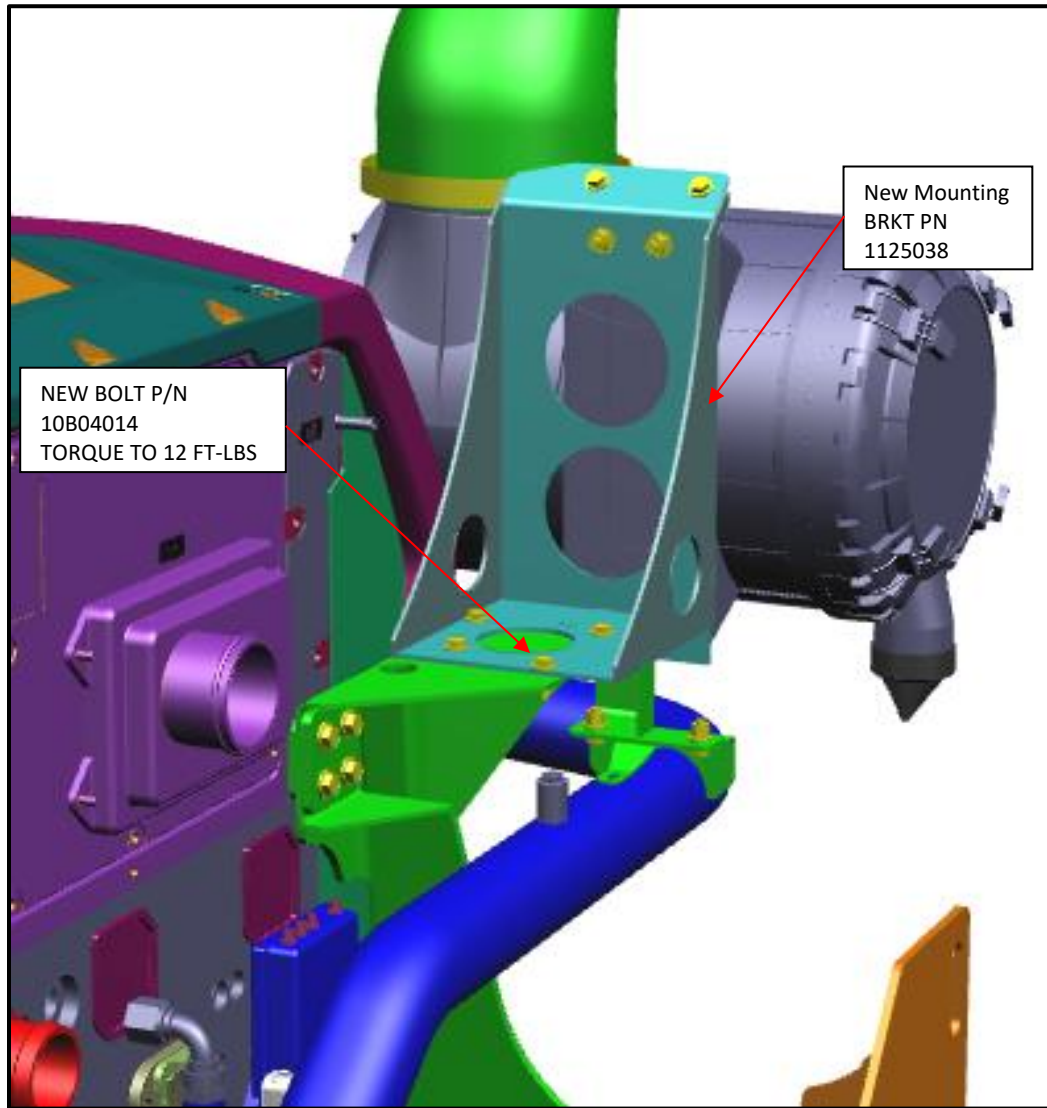

Figure 8: Air filter mounting bracket location reference
- 17. Install new mounting bracket on to rear FC mounting structure and secure as shown below. See figure 8.